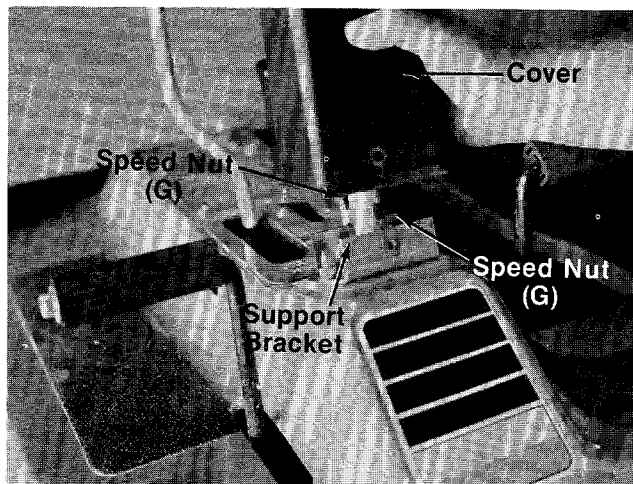

FIGURE 6.
5. Place two speed nuts (G) on support bracket as shown in figure 6.
6. Place the cover (O) over the steering tube assembly. Line up holes in cover with speed nuts. See figure 6.